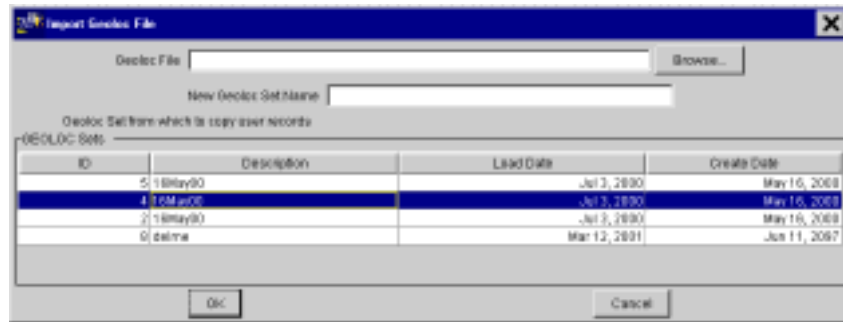

Figure 5.172 Import Geoloc File Window
1. On the ETEdit (main) window, on the Reference menu, click GEOLOC FILE>Import GEOFILE flat file. The Import Geoloc File window opens (Figure 5.172).